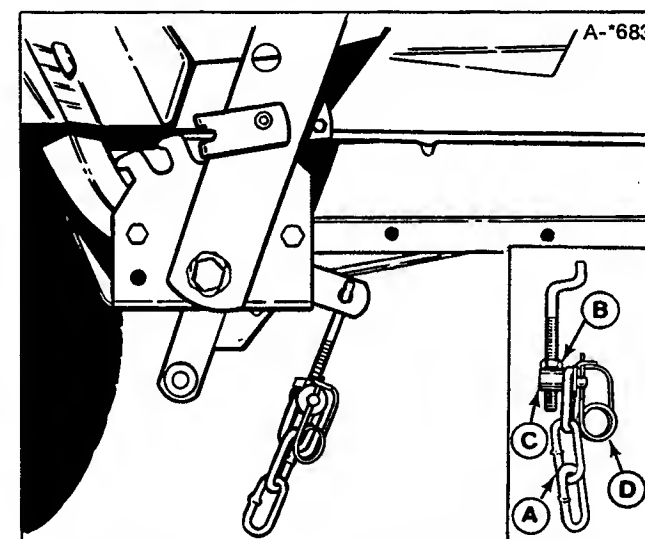

Figure 42. Lift Assembly - Large Lift Lever
4. To adjust, disconnect trunnion (C, figure 42) from chain by removing clip (D). Loosen the nut, and turn trunnion to raise or lower mower. Tighten nut when measurement is correct and replace the clip.